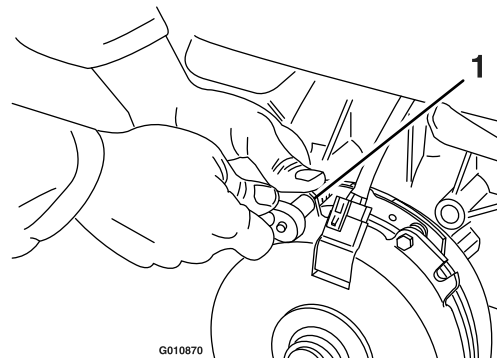

**Figure 68**
2. Using an air compressor, blow out any debris from under the brake pole and around the brake spacers (Figure 68).